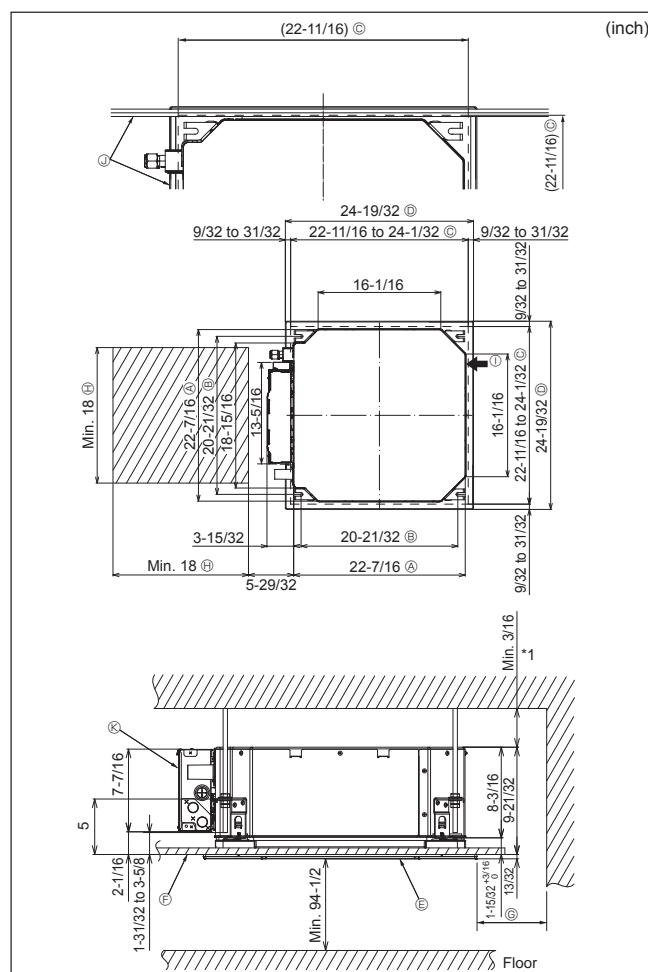

Fig. 4-2
②	Washers (with insulation)	4
③	Washers (without insulation)	4
④	Pipe cover (for refrigerant piping joint)
⑤	small diameter (liquid)	1
⑥	large diameter (gas)	1
⑦	Band (large)	6
⑧	Band (middle)	2
⑨	Band (small)	2
⑩	Drain socket	1
⑪	Insulation	1
4.2. Ceiling openings and suspension bolt installation locations (Fig. 4-2)